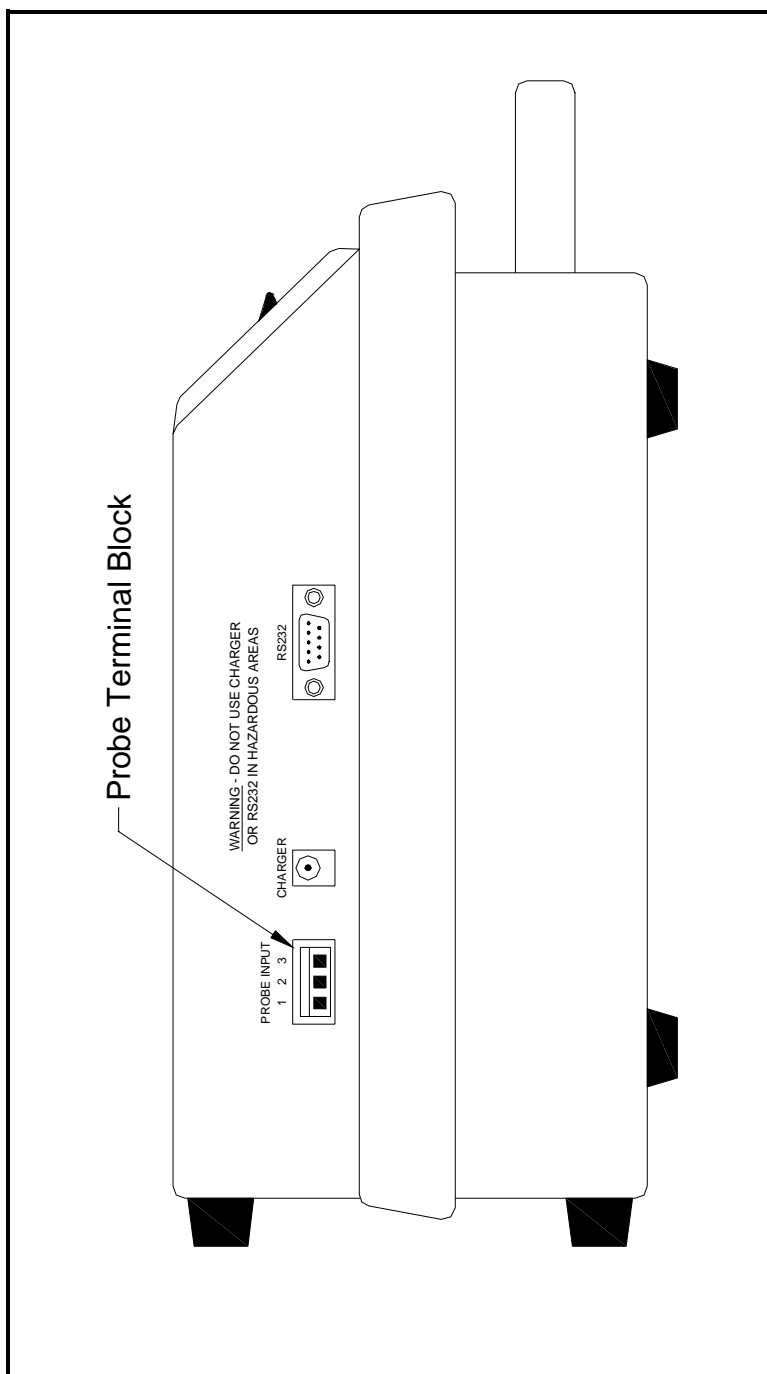

Figure 2-4: Probe Terminal Block Location
3. Connect the other end of the probe cable to the terminal block on the Series 35 IS side panel (see Table 2-1 below and Figure 2-4 on page 2-13).